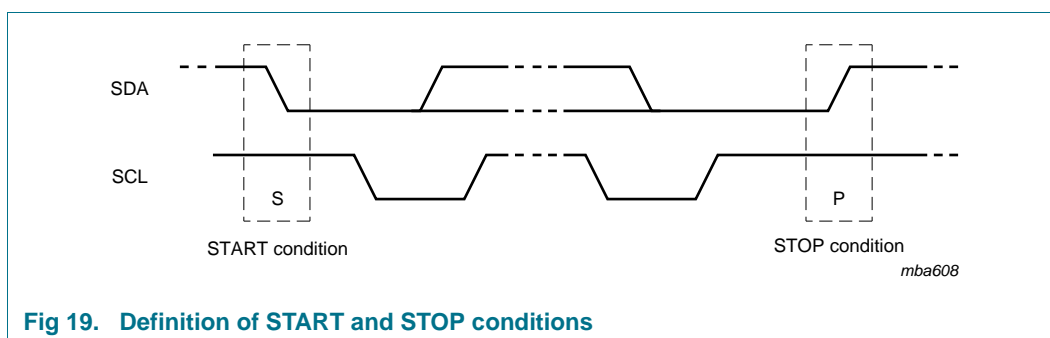

Fig 19. Definition of START and STOP conditions
Both data and clock lines remain HIGH when the bus is not busy. A HIGH-to-LOW transition of the data line while the clock is HIGH is defined as the START condition (S). A LOW-to-HIGH transition of the data line while the clock is HIGH is defined as the STOP condition (P) (see Figure 19).